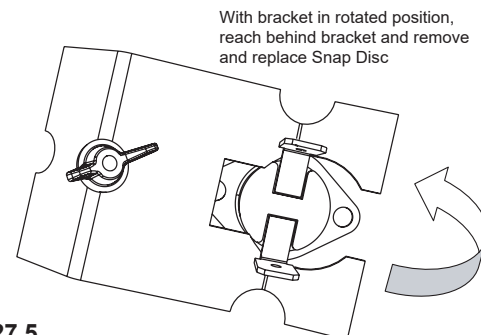

Figure 27.5
10. When bracket is loose enough, rotate the bracket counterclockwise and away from feed tube (**Figure 27.5**).